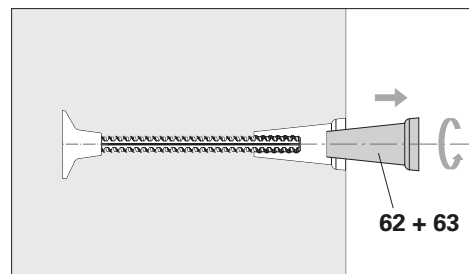

Fig. A3.01
2. Unscrew the climbing cone by hand and remove. (Fig. A3.01)